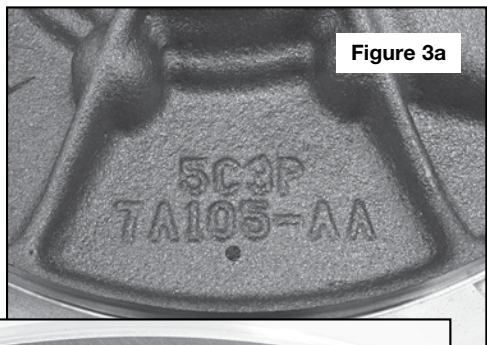

Figure 3a
- **Gen. 2** has these casting numbers on the front of the pump body and the rear of the pump cover: **5C3P 7A105-AA** and **RF5C3P-7B324-AA, -AB** or **-AC**. Directly above the casting number on the rear of the cover is another ID: **Al11Si3Cu** (Figures 3a and 3b).